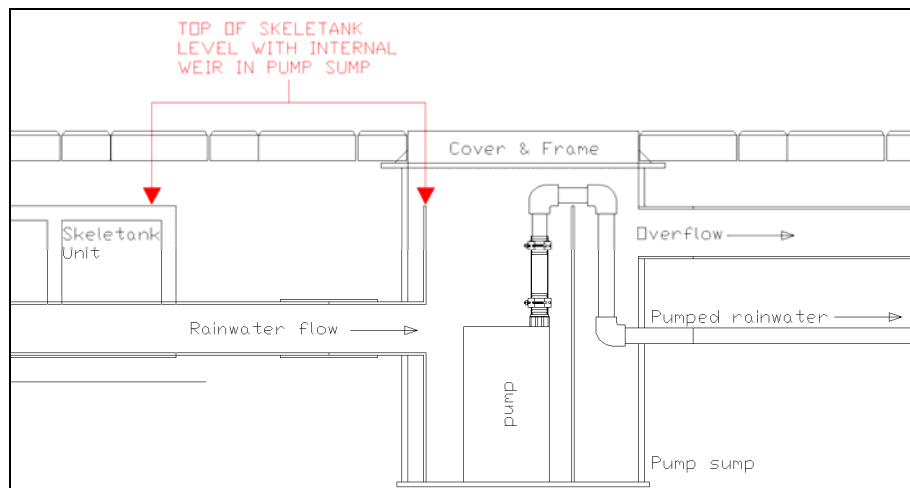
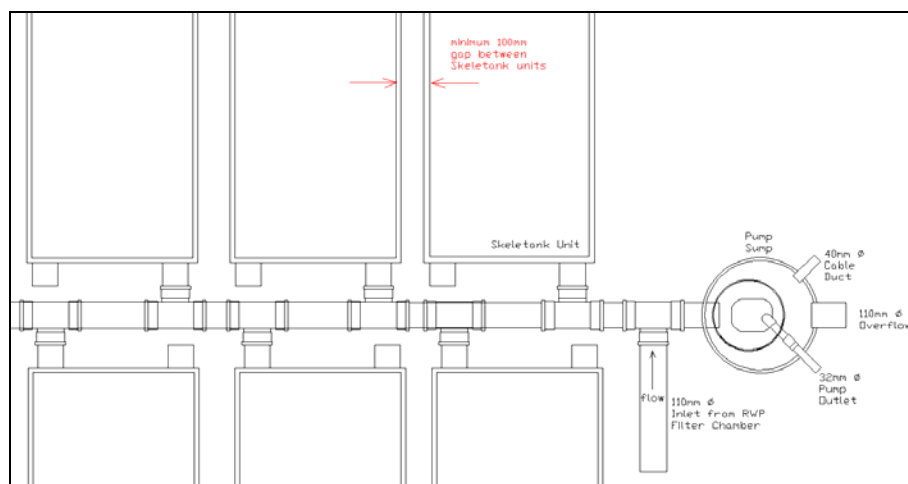

Figure 1
Figure 5
- Step 1** After calculating the number of Skeletank® units you require you will need to consider the location of the Pump Sump. The position and level of the pump sump will determine the depth you need to excavate for the Skeletank® units. The critical level within the pump sump is the internal weir (See Figure 1). The top of the Skeletank® units needs to be set level with the top of the internal weir within the pump sump. Ideally the pump sump should be located as close to a power source as is practicable, the pump supplied with the pump sump has 15m of cabling.
The Skeletank® units need to be bedded on 50mm depth of 10mm Gravel/Shingle and set perfectly level. The recommended spacing between tanks is 100mm (see figure 5). The recommended bedding material for the tanks is 50mm depth of 10mm Gravel/Shingle.
Apply Jointing Lubricant in accordance with the manufacturer's instructions and fit the 110mm x 110mm Tee Pieces to the tanks (See Figure 5). Start assembly with the Skeletank unit nearest to the Pump Sump, you need two people for this. Set the tank down on the prepared bed, connect the 110mm Ø pipe from the Pump Sump to the 110mm Ø Tee and ensure that the connection is home; THEN CHECK THAT IT IS LEVEL WITH THE INNER WEIR (see figure 1) of the pump sump, check that the tank is level in both directions, that is the first tank fitted.
Cut some 110mm Ø pipe to the required length (See Figure 5) to ensure a minimum of 100mm gap between adjacent tanks and repeat the process ensuring that all pipe connections are "home" until all the tanks are fitted and CHECK THAT EACH TANK IS LEVEL WITH ALL THE OTHER TANKS